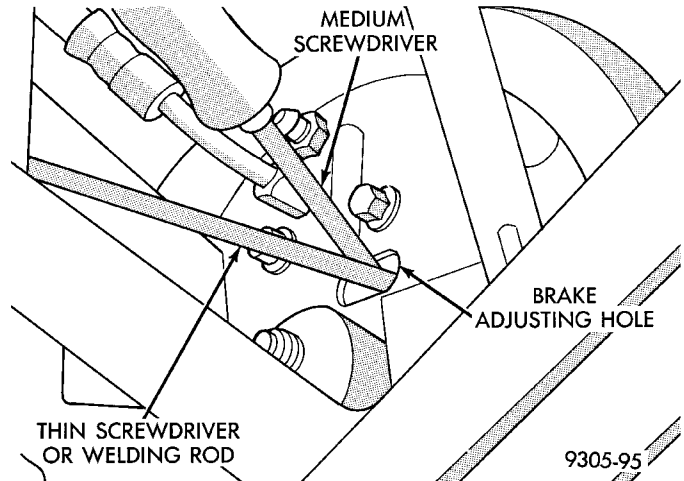

Fig. 185 Brake Drum Adjustment With Tool C-3784
(4) Insert Brake Adjuster, Special Tool C-3784, (Fig. 185) or equivalent, through the adjusting hole in support plate and against star wheel of adjusting screw. Move handle of tool downward until a slight drag is felt when the road wheel is rotated.
(5) Insert a thin screwdriver or piece of welding rod into brake adjusting hole (Fig. 185). Push adjusting lever out of engagement with star wheel. **Care should be taken so as not to bend adjusting lever or distort lever spring.** While holding adjusting lever out of engagement with star wheel, back off star wheel to ensure a free wheel with no brake shoe drag.